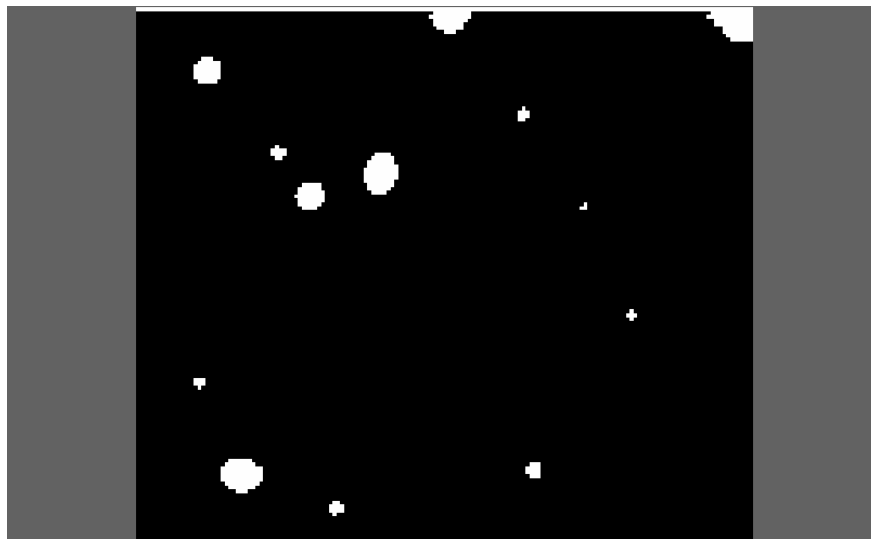

Figure 3
- The **Threshold** operation is an effective tool for isolating bright objects on a dark background, as well as removing background noise (Figure 3). The **Threshold** filter did not remove the bright strip across the top of the image, however. Another filter will be necessary to accomplish this operation.